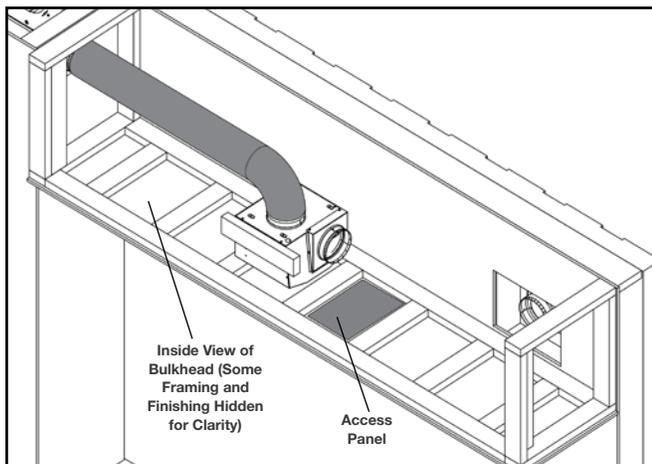

Fig. 3
3. Attach the hot air exhaust assembly to the exterior wall by securing the wall flashing with appropriate fasteners (not supplied) **(Fig. 3)**.
3. Install 6" steel or aluminum duct (not supplied) from the appliance enclosure to the blower housing assembly inlet (Fig. 3).
6. If applicable, remove the 4 screws securing the inline cover assembly and set them aside (**Fig. 3**). Remove the inline cover assembly and set it aside.
15. Install/reinstall the inline cover assembly using 4 screws (supplied) (**Fig. 3**).